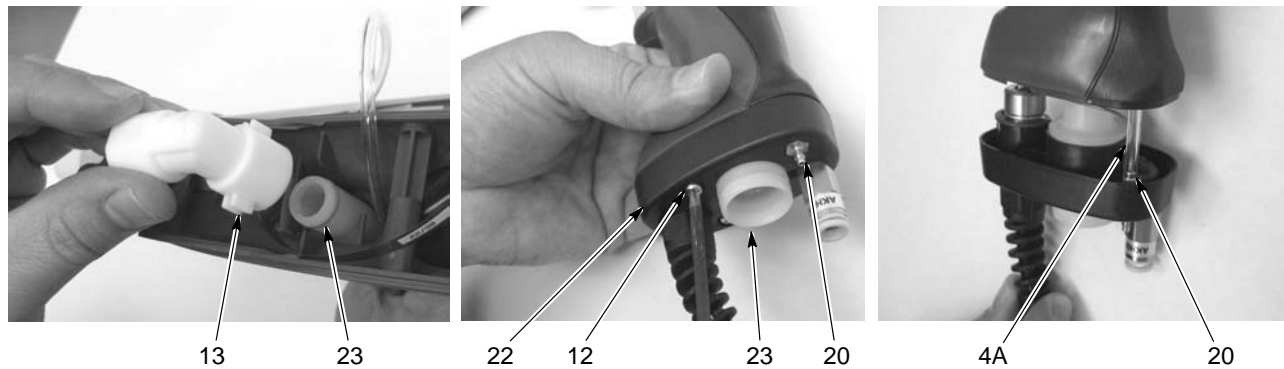

Figure 5 Removing the Elbow and Separating the Base from the Handle
7. See Figure 5. Remove the elbow (13) from the inlet tube (23).
8. Remove the two M3 x 20 screws (12) securing the handle base (22) to the handle assembly.
10. Pull the clear 4-mm tubing (4A, part of filter assembly) off the barbed fitting (20).